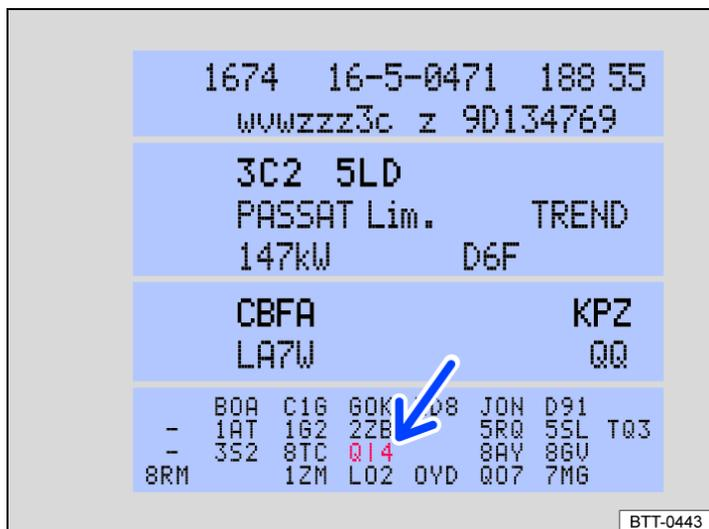

Fig. 1 Vehicle data sticker with PR number for the relevant service (illustration).
- From the PR number of the vehicle data sticker → Fig. 1 (arrow).